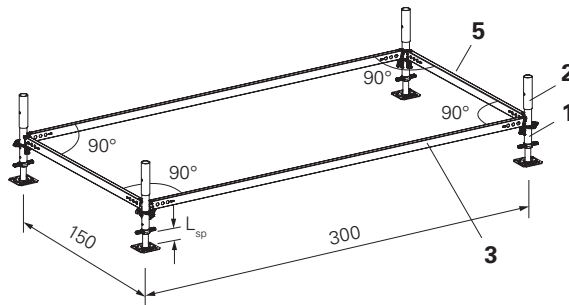

Fig. B3.02
Lsp ≤ 20 cm. (Fig. B3.02)
- All ledgers must be at 90° to one another. (Fig. B3.02)